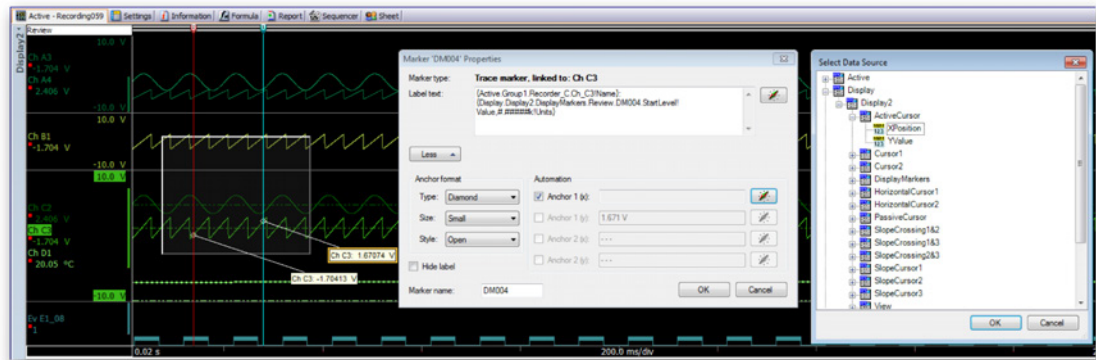

Figure 6.55: Active Sheet/Marker Properties dialog/Select Data Source dialog (From left to right)
- Now you can click on the **navigation** button and another dialog box “Select Data Source” will open (see Figure 6.55).